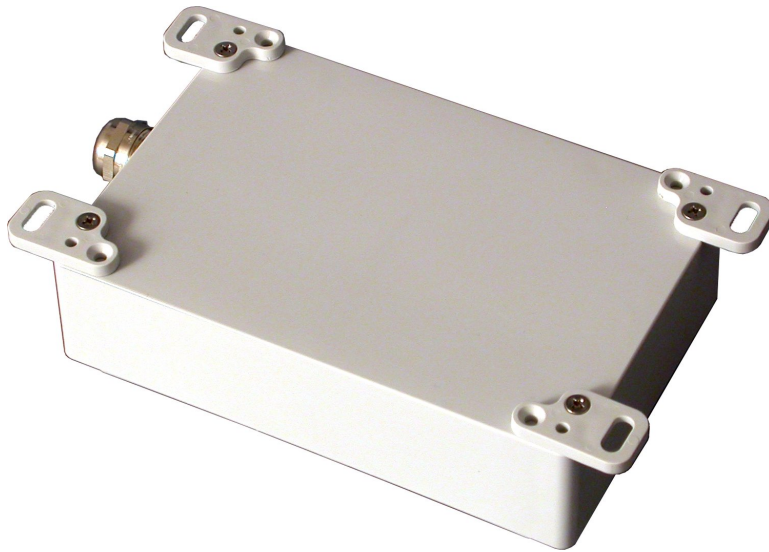

Figure 2.1: Attached Mounting Tabs
2. Align the tab with the hole, in the desired orientation, and mount the M3 screw through the tab and into the rear panel mounting hole as shown in Figure 2.1.